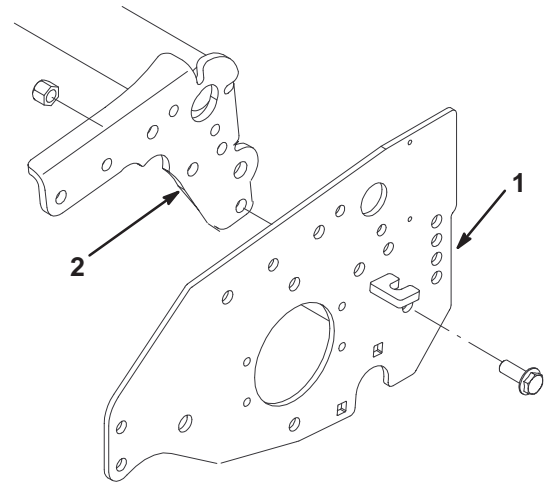

Figure 5
5. Remove bolt (Fig. 5) securing reel frame to weight end sideplate.